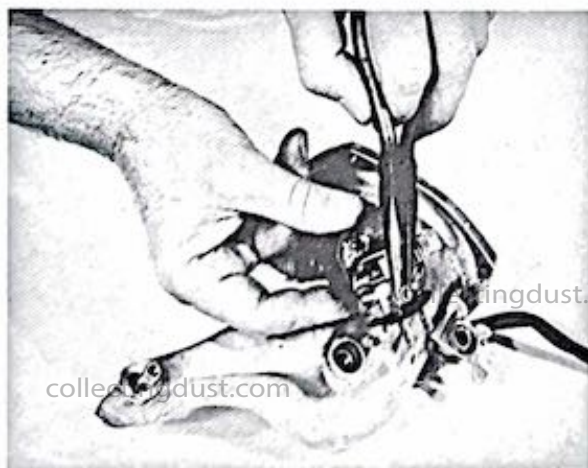

Figure 1-8. Positioning insulating tube
(34) in the recess of the screw hole as shown in figure 1-8.